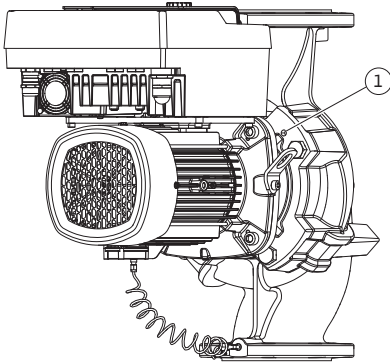

Fig. 10: Pressing off the motor impeller unit via threaded holes
5. Press the motor impeller unit (see Fig. 4) off the pump housing. Depending on the pump type (see Fig. I ... Fig. III), there are two different approaches. For the pump type (Fig. III), loosen the screws (Item 29). Use the two adjacent threaded holes (Fig. 10, Item 1) and use suitable screws provided on-site (e.g. M10 x 25 mm). For the pump type (Fig. I and Fig. II), use the two threaded holes M10 (Fig. 99). Use suitable screws provided on-site (e.g. M10 x 20 mm). The slots (Fig. 99, Item 2) can also be used for pressing off.